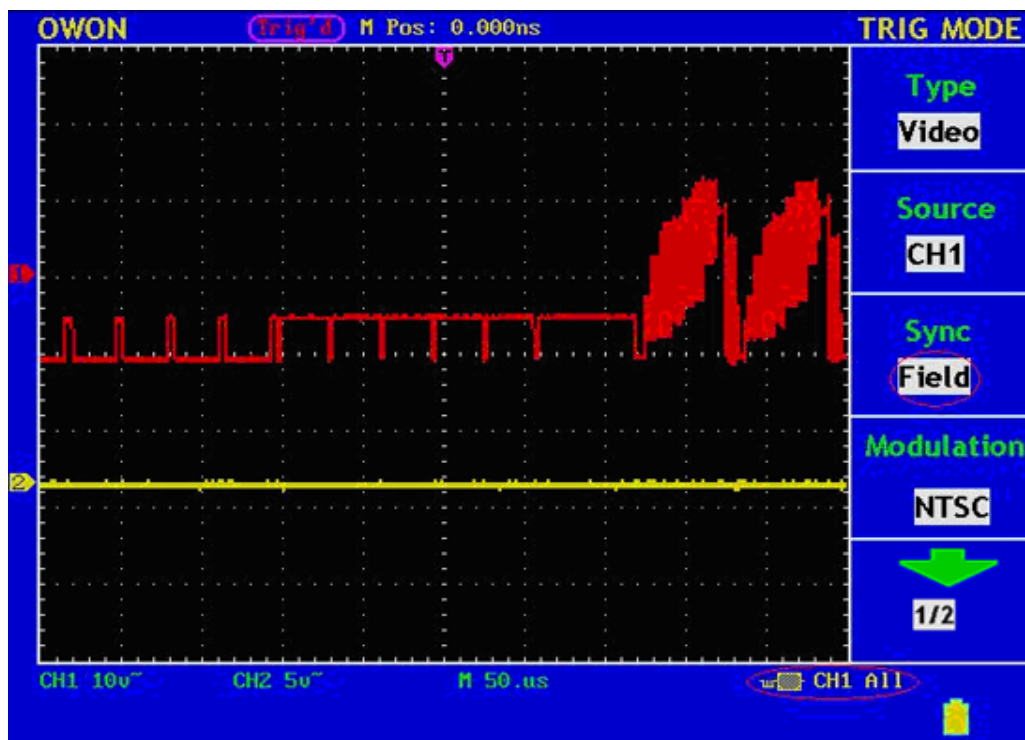

Fig.34 Wave Form Triggered in the Video Field
4. Press the **F3** menu selection button and choose **Field** for Sync. The screen display is shown as Fig.34.